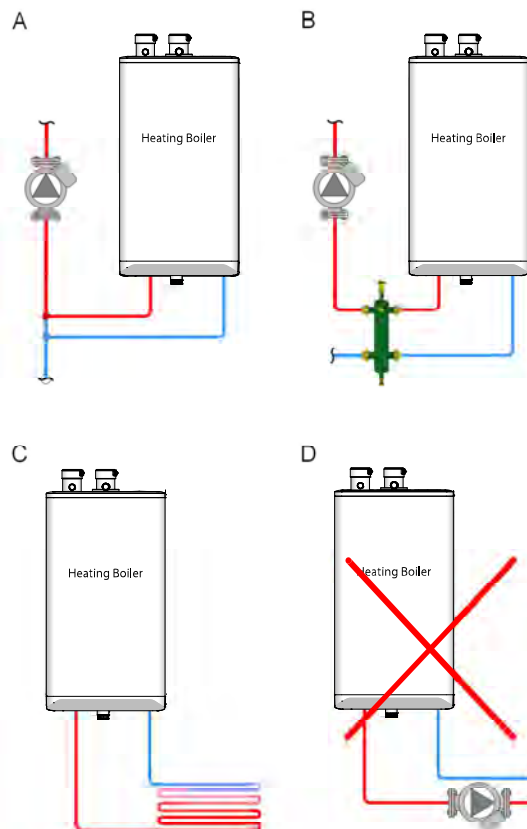

Figure 31: Permitted and prohibited space heating boiler piping
Figure 31 illustrates that the integral space heating pump can be hydraulically separated from the distribution pump by (A) closely-spaced tees, or by (B) a low-loss header. Although best practice is primary/secondary, in some cases (C) the integral pump will be adequate to provide flow through the building heat emitters. The installer / designer must ensure that if the integral pump is used for the space-heating emitters it is powerful enough for system distribution. Avoid (D) where an external pump is placed in series with the integral pump because the external pump runs when the Heating Boiler is serving DHW. It will strongly compromise DHW response.